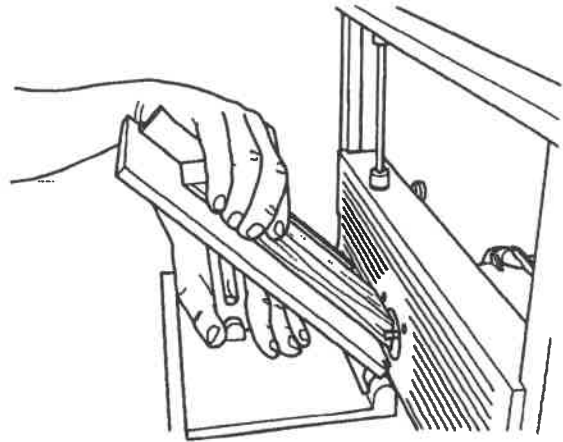

Fig. D-1
4. Turn on the Dust Collector and router, then make the socket cut across the bevel end. Turn off the router and Dust Collector. See Fig. D-1.